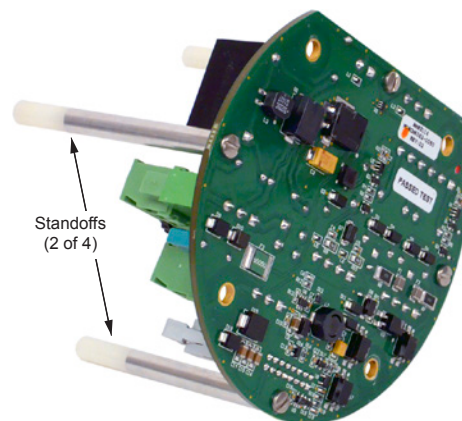

Figure 5.16—Bottom circuit assembly
10. Connect the standoffs removed in Step 8 to the new bottom circuit assembly, as shown in Figure 5.16, Page 53.